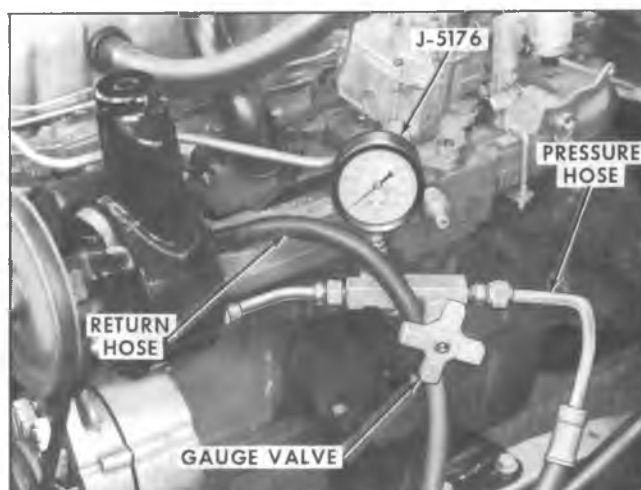

Fig. 42—Checking Power Steering Pressures
- a. With engine not running, disconnect flexible pressure line from pump and install Tool J-5176 as shown in Figure 42. Gauge must be between shut-off valve and pump. Shut-off valve must be open.